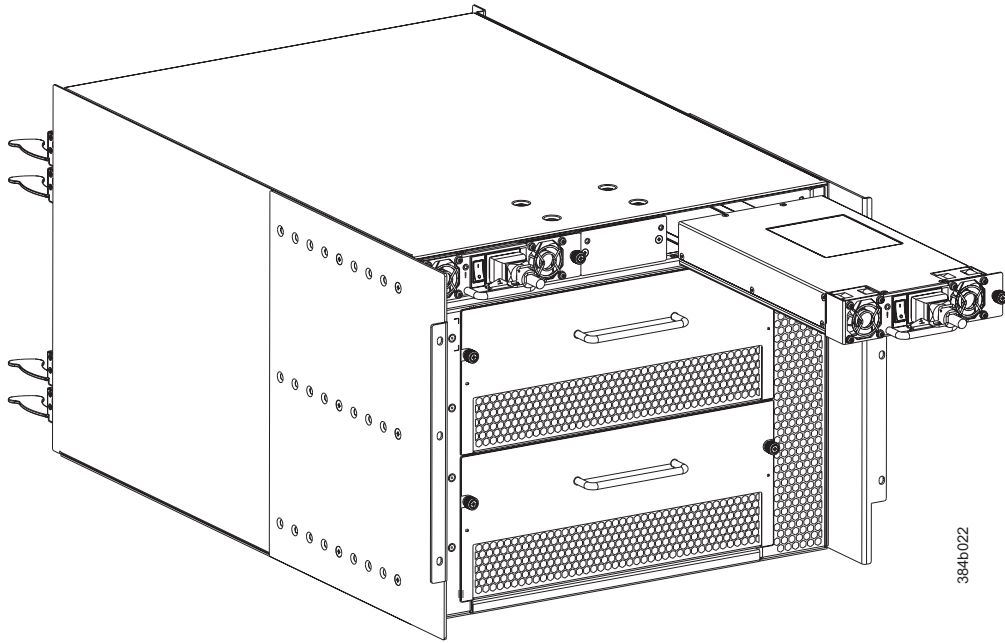

Figure 38. Removing and installing a power supply
5. Grasp the handle and pull, sliding the power supply from the chassis (see Figure 38 on page 86). Support the power supply from beneath as you remove it.